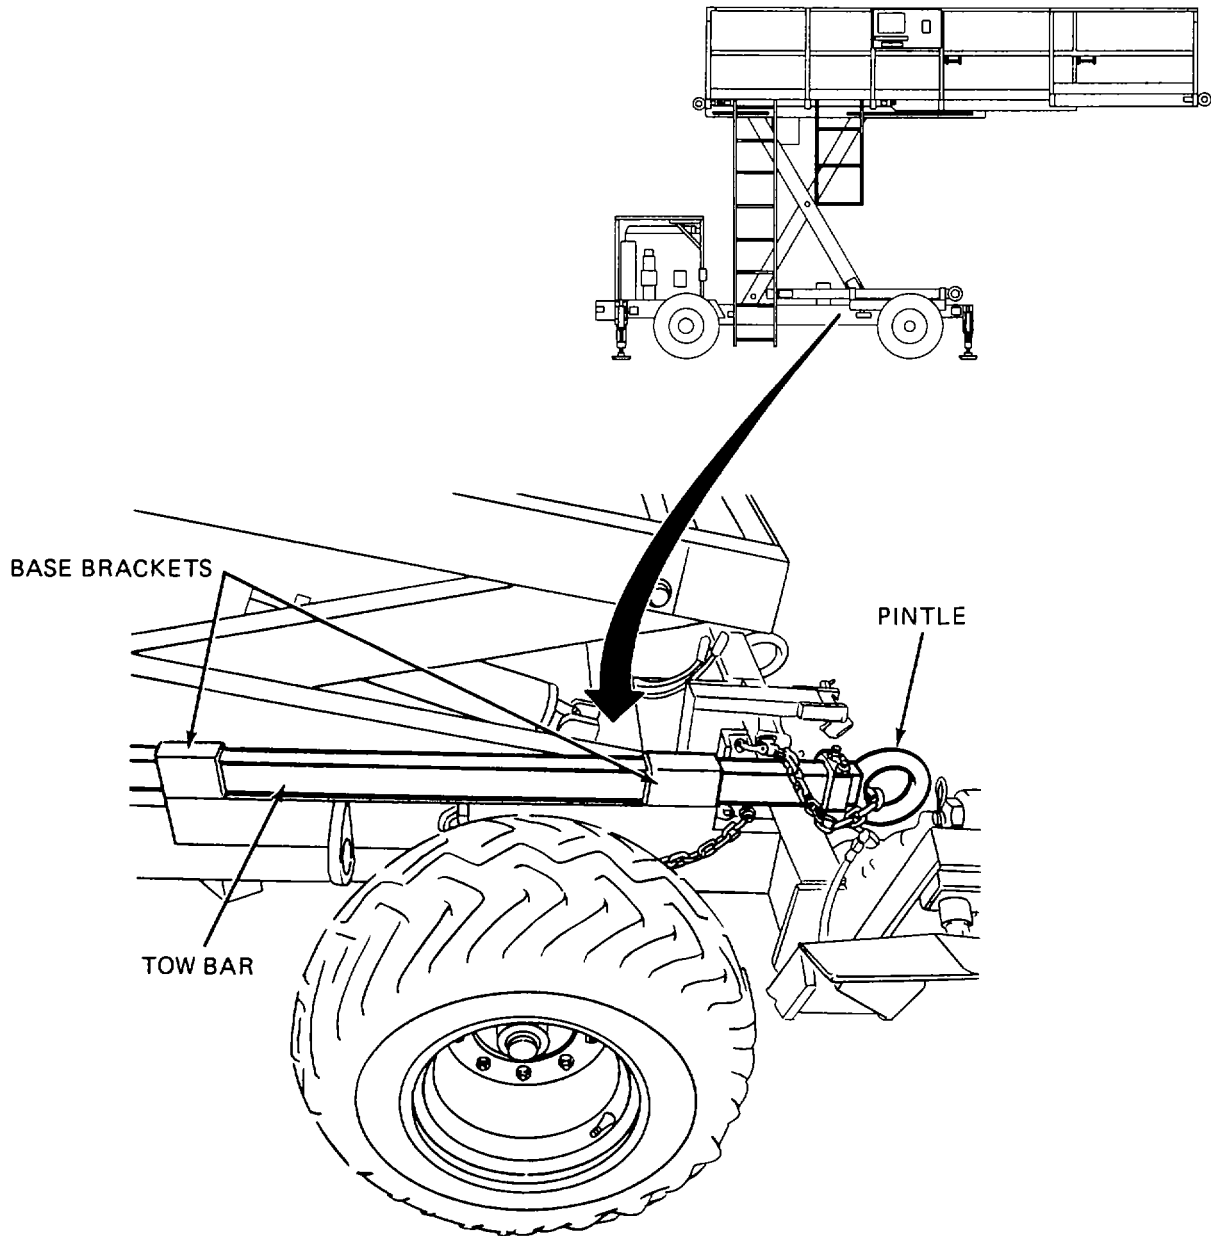
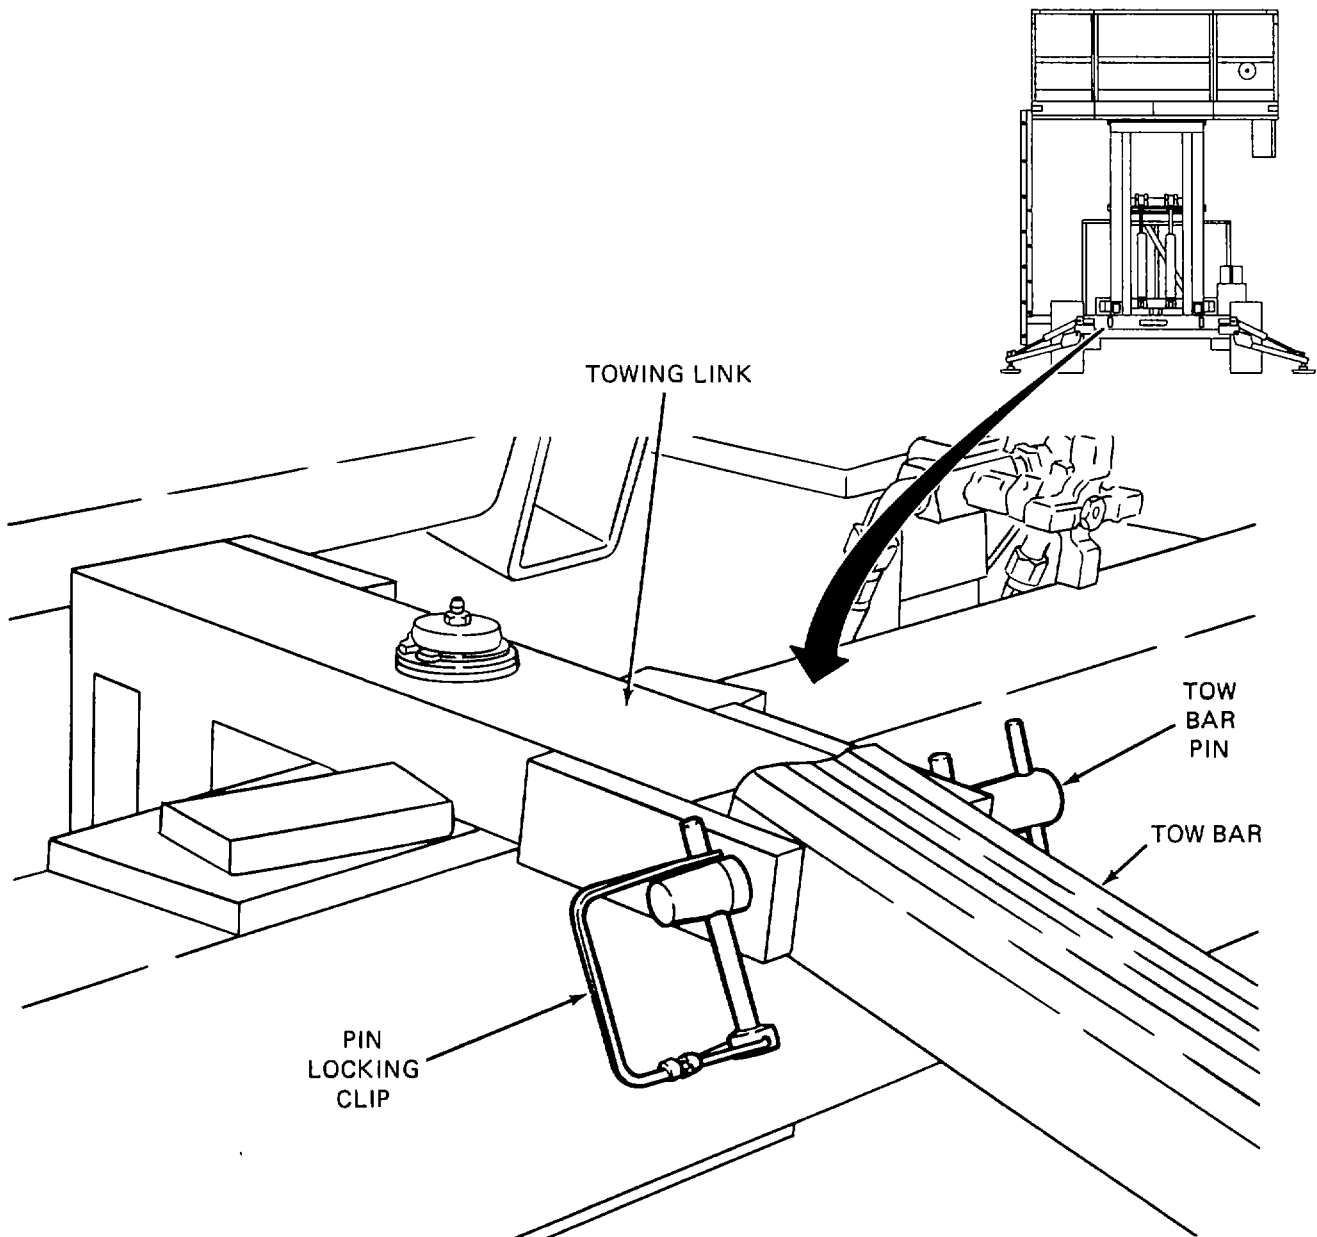

Figure 2-25. Tow Bar (Stored).
Figure 2-26. Tow Bar (Installed).
- (1) Lower platform fully and remove all tools and equipment.
- (2) Remove tow bar from its stored position in the base brackets. See Figure 2-25.
- (3) Install tow bar at the link in the front of the SPEMS frame using tow bar pin. Lock pin in position with clip. See Figure 2-26.
- (1) Re-engage the left rear drive wheel hub.
- (2) Remove the tow bar (Figure 2-26) and store in brackets on frame. See Figure 2-25.